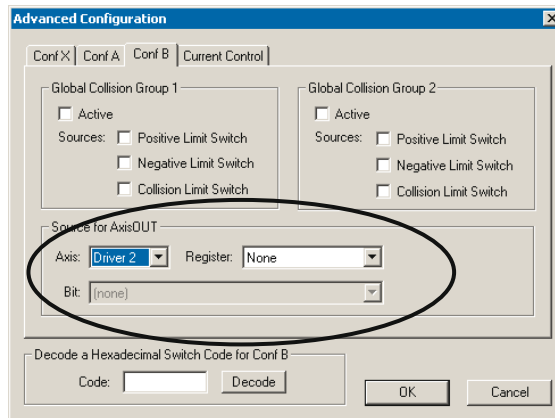

Figure 6.14 Motorized Drives section 2Theta - Advanced Configuration
5. Check the settings for “2Theta”. The parameters for “Sources for AxisOUT” have to look like Figure 6.14.